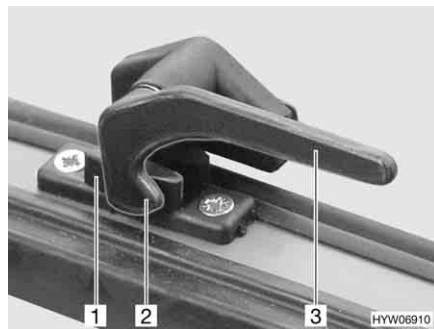
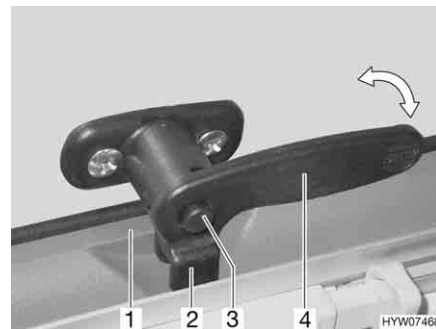

Fig. 75 Catch lever without safety knob in "closed" position
Fig. 76 Catch lever with safety knob in "closed" position
- If necessary, press the safety knob (Fig. 76,3) down and hold it.
- Turn the catch lever (Fig. 75,3 or Fig. 76,4) a quarter turn towards the window frame. The locking catch (Fig. 75,2) is on the inner side of the window catch (Fig. 75,1) or the fork (Fig. 76,2) on the catch lever is completely on the inner side of the window catch (Fig. 76,1).
- Firmly closed (Fig. 75 or Fig. 76)